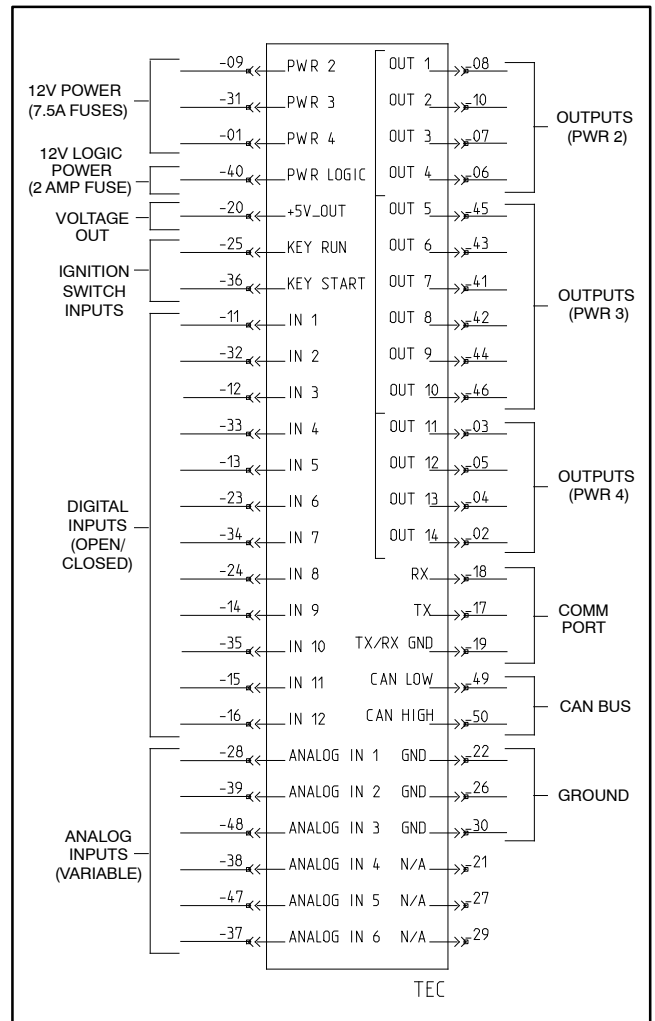
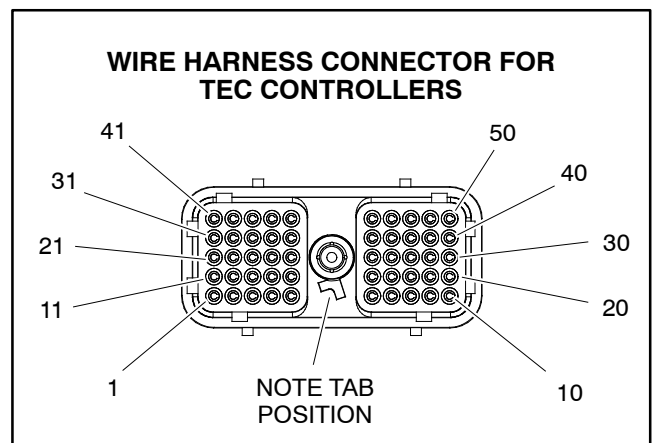

Figure 65
Figure 66
The diagram in Figure 65 depicts the connection terminal functions for the TEC controllers. Note that electrical power for controller outputs is provided through three (3) connectors (PWR 2, PWR 3 and PWR 4) each protected with a 7.5 amp fuse. A fifty (50) pin wire harness connector attaches to the controller. The connector pins are identified in the diagram in Figure 65. The layout of the wire harness connectors that plug into the TEC controllers is shown in Fig. 66.